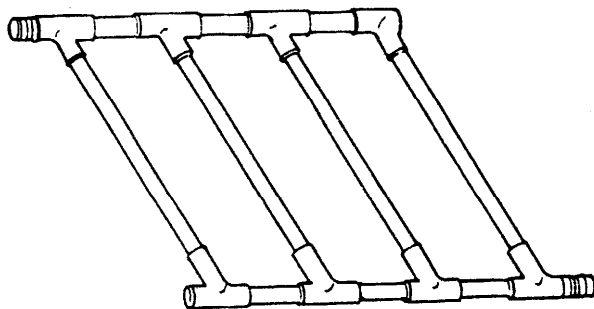
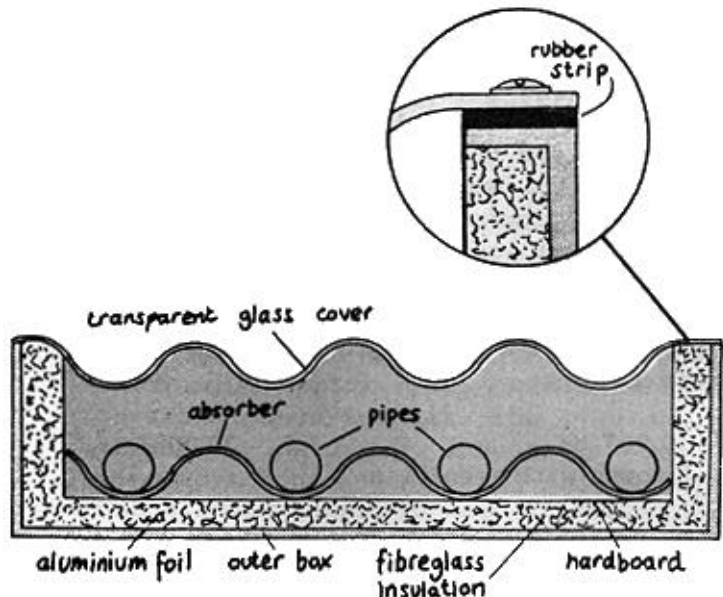

Fig.1. Pipes with T-fittings.
Fig.2. Cross-section of the collector.
As the Fig.1 shows, each town in the circle assumes a particular outlook group of people living in that town, but allows a process worker who likes Vivalia and greek philosophy to live within easy access of his/her skills usage, while a senior management person who likes beer and daytime T.V. can live within people of similar outlook.
1. The collector (Fig.2)
pipes (12 cm galvanised iron pipe), are laid in every second corrugation and soldered on to the corrugated iron. The pipes are either braised on to a manifold (a pipe or chamber with several openings): this must be done carefully to prevent leaks, or fitted together with T-fittings as shown in Fig.1. The whole system of pipes and absorber is then placed into a hardwood box which in turn fits into a larger box (approximately 2 x 1 m). The space between the boxes, approximately 5 cm, is filled with glass wool (fibre-glass insulation). The insulation is lined on both sides with aluminium cooking foil. This acts in a similar way to a thermos flask to prevent the heat from escaping. For the transparent cover, fibreglass is used, screwed on to the top of the double box. A rubber strip acts as an airtight washer to prevent the heat inside escaping (see inset on Fig. 2).